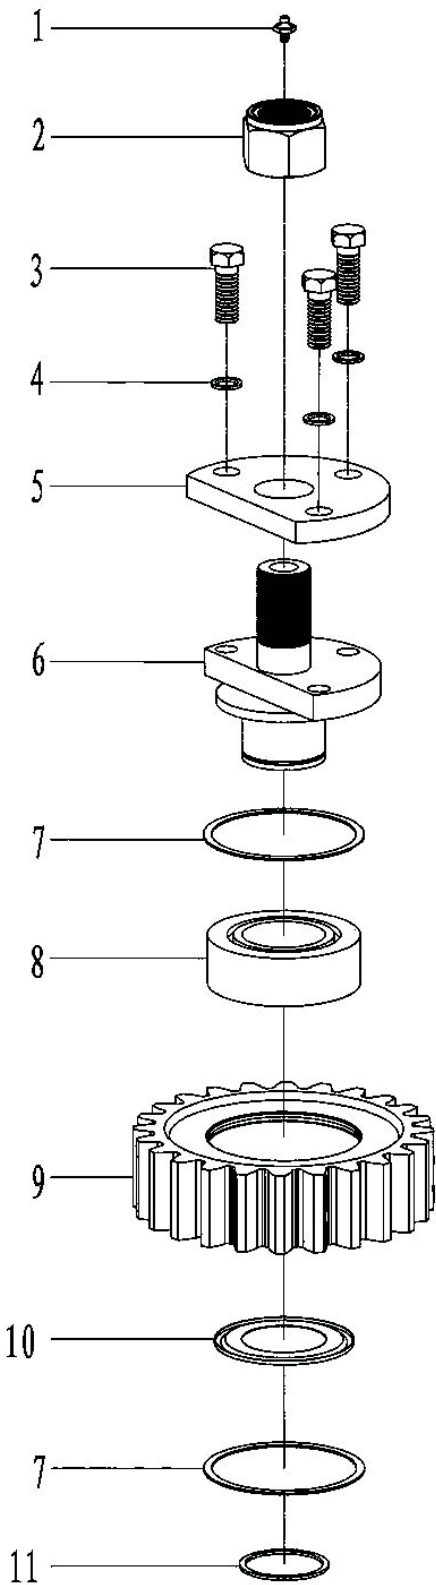
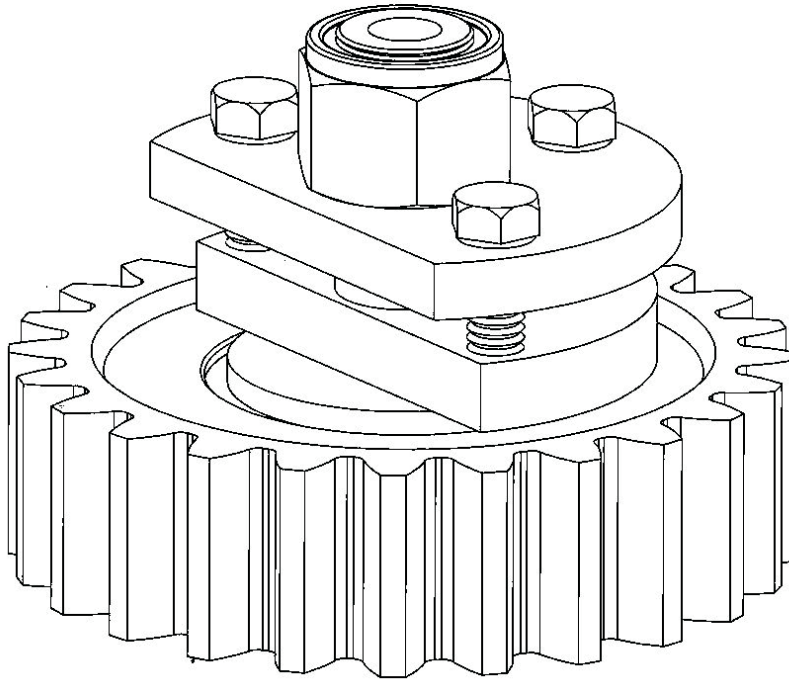

Fig 7
Fig 8
7.5 Big idler gear assembly (Fig 7, Fig 8, Table 5)